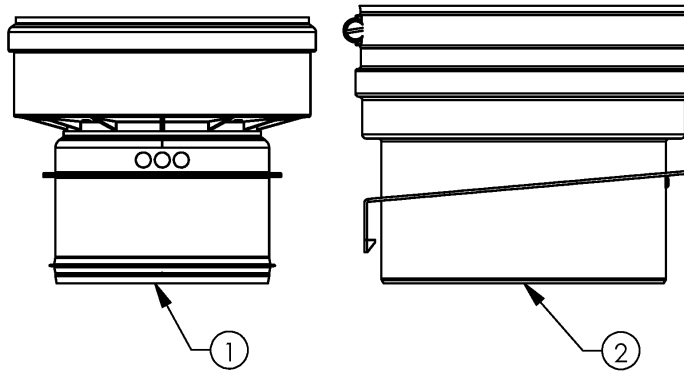

Figure 2. PVC COMMON VENT KIT (300 TO 500 MODELS) (ONE KIT NEEDED FOR EACH HEATER)
- The adapters shown in *Figure 1* (page 4) and *Figure 2* (page 5) must not be modified.